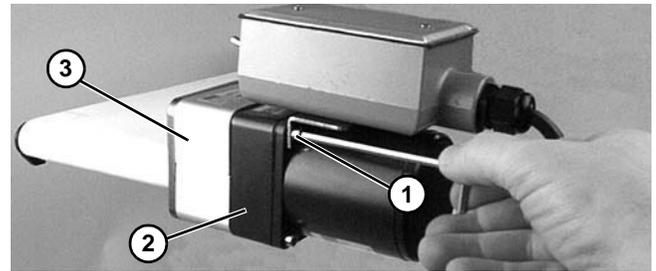

Figure 11
3. Remove four (4) screws (**Figure 11, item 1**). Remove gearmotor (**Figure 11, item 2**) and top cover (**Figure 11, item 3**).
7. Insert top cover (**Figure 11, item 2**) into bottom cover. Mount assembly with two (2) top screws (**Figure 11, item 1**). Tighten to 45 in-lb (5 Nm).